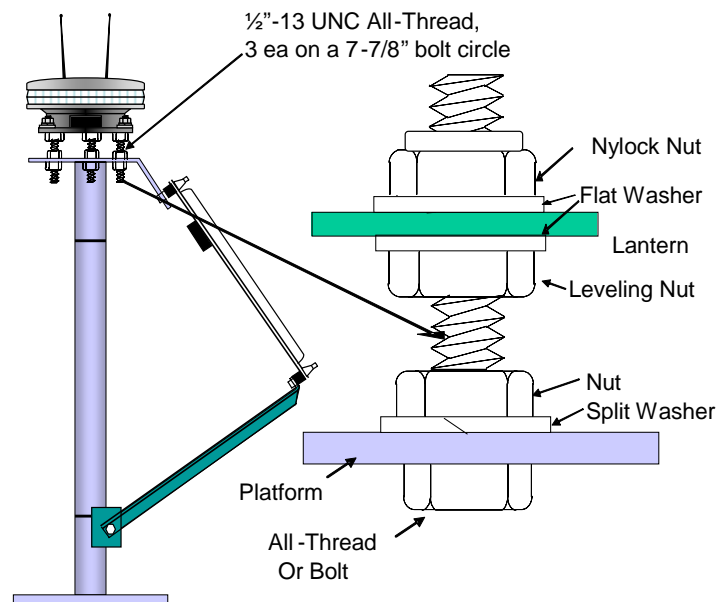

Figure 3-26.
- d. On structures, secure three 1/2" stainless steel bolts (or all-thread) to the structure's mounting plate as shown in Figure 3-26. Install three leveling nuts and flat washers on the bolts so that about 1" of thread is exposed. Place the lantern on top of the leveling nuts, and then install the flat washers and nylock nuts at the very upper end of the thread. Do not tighten these uppermost nuts – they are positioned at this time to ensure that the lantern doesn't fall off. Level the lantern on structures by adjusting the leveling nuts (use a torpedo level on the top of the lens) - use the "T" method. When the lantern is level, tighten the nylock nuts.